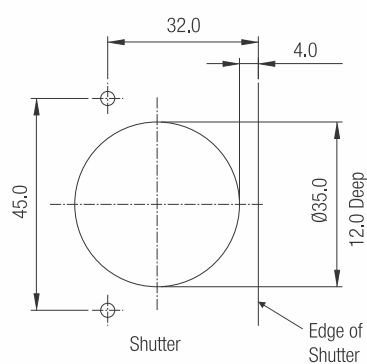

Fig.1
1. Drill out the cavity in the shutter as per the dimensions in Fig. 1.